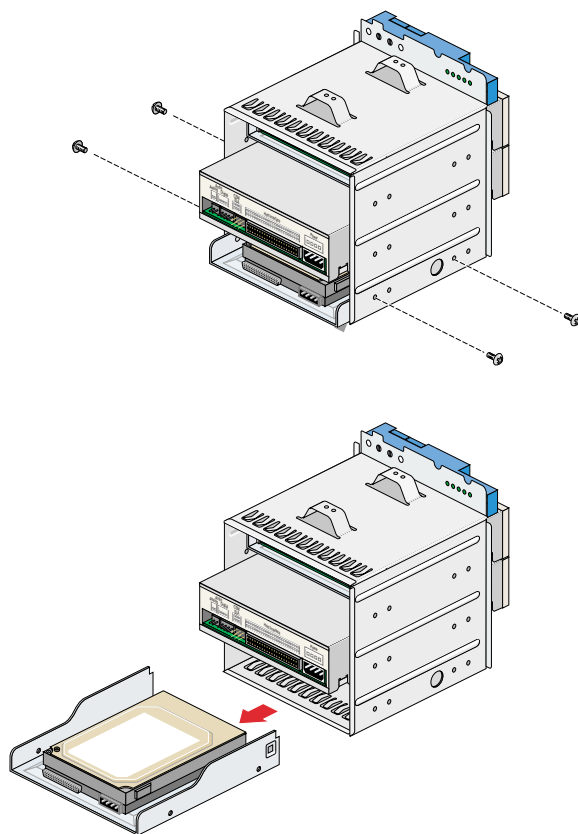

Figure 5-5 Removing a Drive from the Drive Bay
2. Unscrew the two screws on each side of the drive cage that secure the drive, as shown in Figure 5-5.
5. Align holes in the drive with holes in the sides of the drive cage. Screw the drive into the drive cage with four screws (two on each side of the drive cage), as shown in Figure 5-5. Screws are included with the drive.